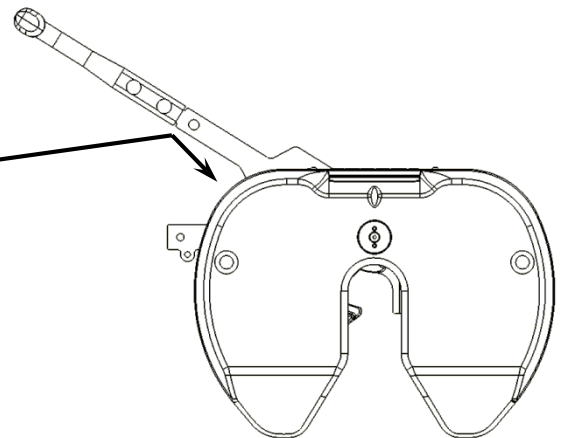

FIG. 11
- 3) Remove bail pin and move handle to unhitching position (pg. 4, fig. 11) by pulling out fully (fig. 15) until an audible “CLICK” is heard then rotating handle towards cab (fig. 16).*
If handle will not move to the unhitching position (pg. 4, fig. 11) with ease, STOP, DO NOT FORCE THE HANDLE!!! The jaw may not open if under tension. Slowly reverse truck to remove load on the jaw before attempting to unhitch trailer.